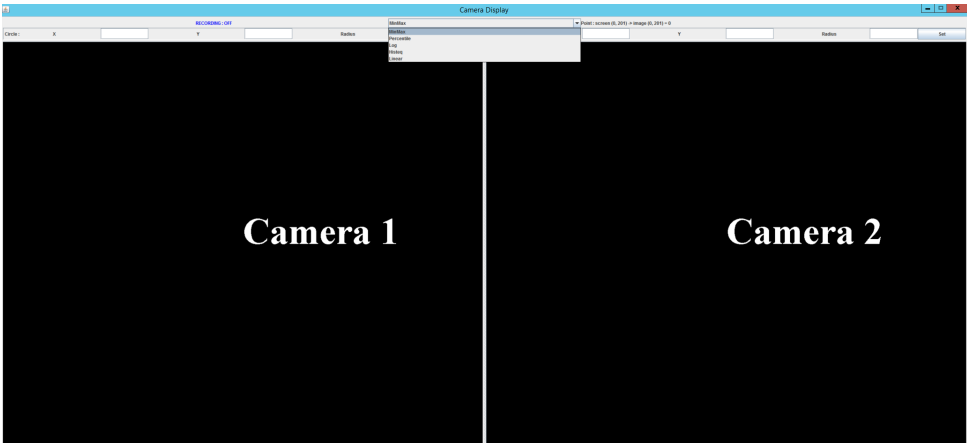
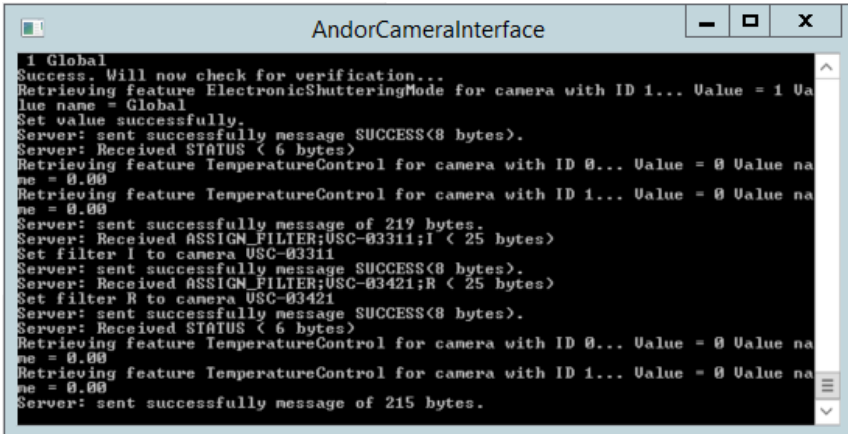
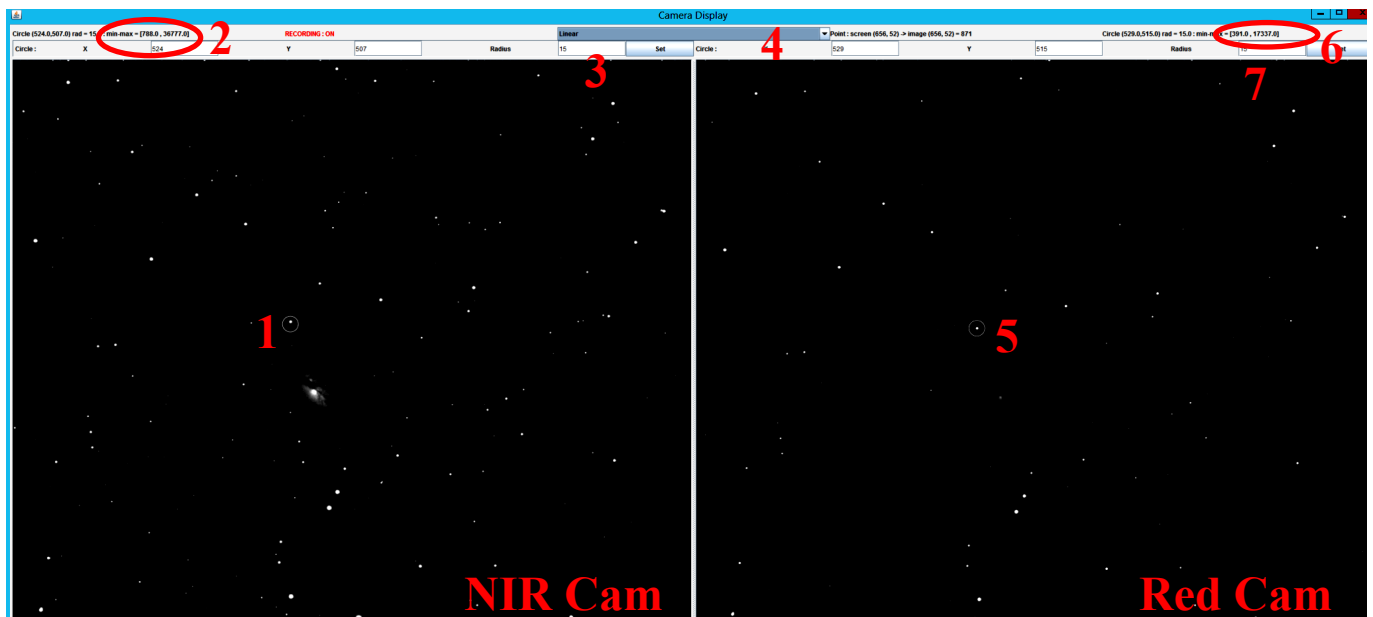

Fig. 6.9. The cameras displays window after the cooling is complete.
Fig. 6.10. The “Andor Camera Interface” after the cameras initialized and cooled down.
Fig. 6.15. The camera display window of the software.
10. The “Opening camera system” pop up window appears with the message “Start the cooling?”. Press “Yes” (Fig. 6.7 lower right). The cooling begins and approximately up to 4 minutes are required to complete. Once the setpoint of 0°C is reached, another window with the cameras displays opens (Fig. 6.9), while the “Andor Camera Interface” window (Fig. 6.10) displays that temperature’s set point has been reached and communicates with server.
11. Move the camera display window (Fig. 6.9) to the righter monitor of the server.
- Then, in the camera settings section (Fig. 6.12 B) you can set the binning, pixel encoding, shutter mode and read out rate (B-1-4) as given in Tables 3-4. The default values are those that are mainly used. In case both cameras are selected (Fig. 6.10 A-1), then is possible to select “Force common settings” (B-5) if you want both of them to run under the same operation mode.
3. In the “Acquisition settings” menu (Fig. 6.12 C) type in the “Frame exposure” boxes the exposure time in seconds. In case of both cameras are selected (Fig. 6.10 A-1), then both boxes are enabled, otherwise only the box of the camera selected is enabled. In order to set the exposure time, type in the boxes (C-1) and then press “ENTER”⁶. (Check Table 3 for the range of the exposure times).
3. Acquire 2-3 images using the “Frame limit” option (Fig. 6.10 D2) and check the Maximum value of 3-4 non saturated stars by simply clicking on them (Fig. 6.15 No 1-2) in the NIR cam (CAM 1) window⁸. A circle around the star appears. You may also change the radius of this circle (Fig. 6.15 No 3). You can also change the contrast for your convenience (Fig. 6.15 No 4) using the drop down menu.
⁸If CAM 2 (RED cam) is used for focus, then Fig. 6.15 No 1-3 should be replaced by Fig. 6.15 No 5-7, respectively.